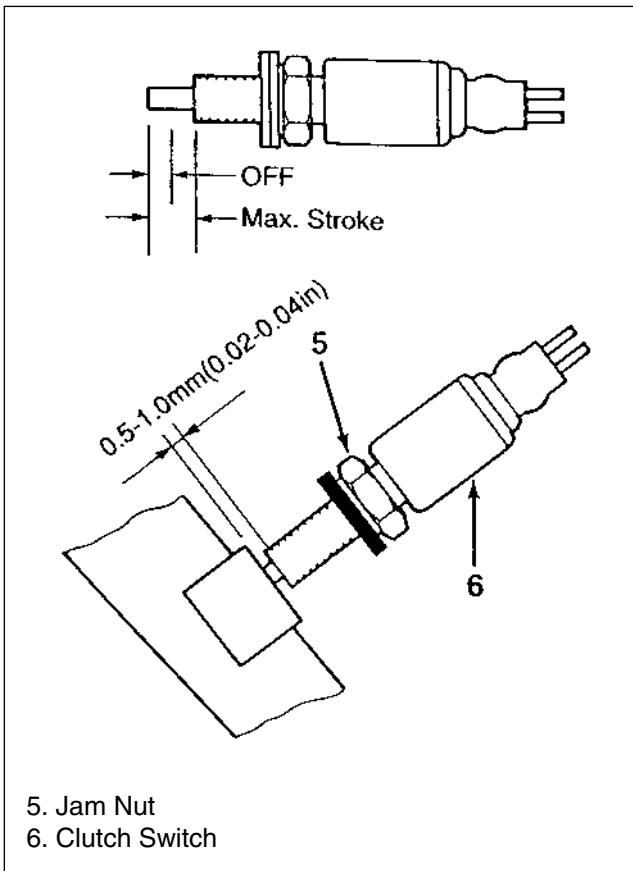

Figure 4. Clutch Switch Clearance
1. Loosen the jam nut (5) on the clutch switch (6) (figure 4).
6. Check clearance at the clutch switch. Turn the switch in its bracket until the clearance between the fully depressed plunger and the clutch pedal is 0.5–1.0 mm (0.02–0.04 in) (figure 4).
CAUTION: Clutch switch must be adjusted so that when the clutch pedal is released, it closes the switch but does not completely depress the switch plunger (max stroke see figure 4). If the plunger is completely depressed by the pedal, switch damage may result.